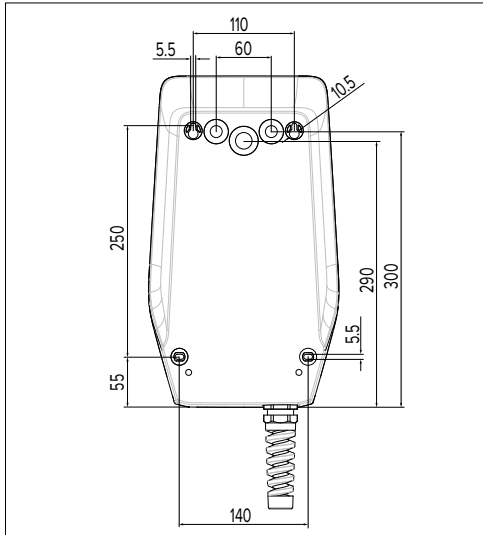

Fig. 6: Drilling dimensions [mm]
For mounting on a wall the supply line must be positioned using the drilling template provided or as shown in Fig. "Fig. 6: Drilling dimensions [mm]". Cable glands are located on the back, bottom and top.
- ▶ Mark the boreholes using the drilling template provided or as shown in Fig. "Fig. 6: Drilling dimensions [mm]". Ensure that the alignment is horizontal.